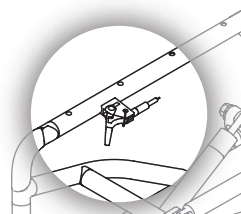

Figure 19.22 Seat height adjustment lever.
- 3 Release the lever at the desired height. (See Figure 19.22 for location of seat height adjustment lever.)